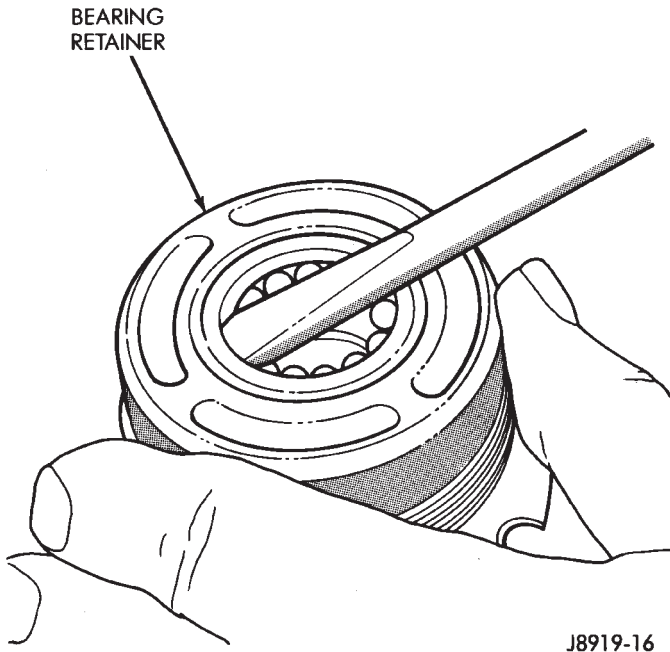

Fig. 13 Lower Bearing Retainer
- (1) Pry out the lower bearing retainer (Fig. 13).